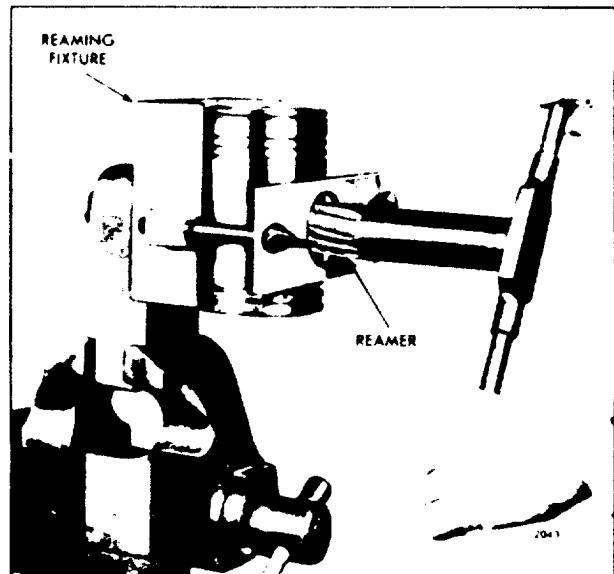

Fig 7 -Reaming Piston Pin Bushings
(Fig. 7). Then insert the guide bushing J 4970-5 in the fixture and secure it with the set screw.
- d. Ream the bushings (Fig. 7). Turn the reamer in a clockwise direction only, when reaming or withdrawing the reamer. For best results, use only moderate pressure on the reamer.